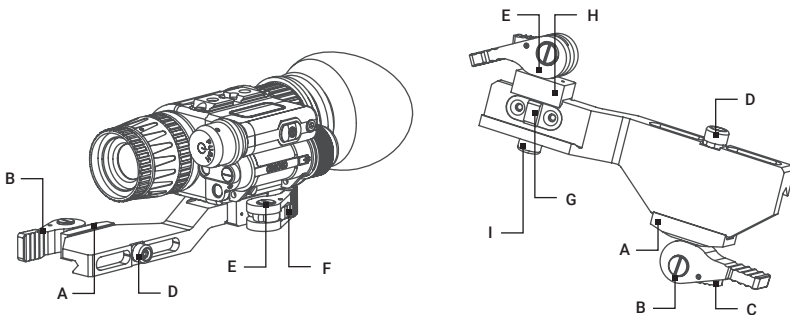

FIGURE 2-4. QUICK-RELEASE WEAPON MOUNT
To mount the NVM to a weapon using an optional quick-release weapon mount (QRWM), perform the following (refer to Figure 2-4):
1. While pushing down on the lever holder (C), turn the lever (B) backwards to loosen the QRWM clamping device (A).
2. Install the QRWM on the weapon rail by inserting the stop (not shown in Figure 2-4) into one of transverse slots of the weapon rail.
3. To secure the QRWM onto the weapon rail, turn the lever (B) forward. Secure the clamping device (A) tightly to the weapon rail. To adjust the force of the lever clamp, loosen or tighten the nut (D) as necessary.
4. While pushing down on the lever holder (F), turn the lever (E) forward.
5. Install the NVM on the QRWM rail by inserting the stop (G) into the transverse slot of the unit rail.
6. Attach the NVM to the QRWM rail by turning the lever (E) backwards. Secure the QRWM clamping device (H) tightly to the NVM rail. To adjust the force of the lever clamp, loosen or tighten the nut (I) as necessary.